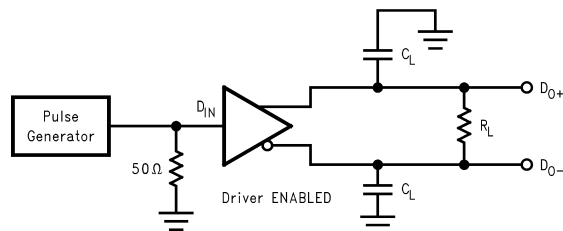
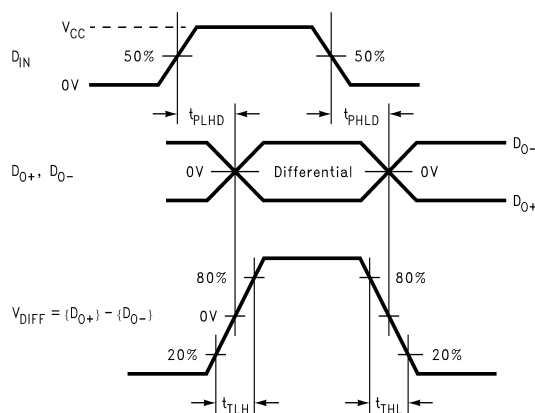

Figure 2. Differential Driver Propagation Delay and Transition Time Test Circuit
Figure 3. Differential Driver Propagation Delay and Transition Time Waveforms
| $t_{PHLD}$                                       | Differential Prop. Delay High to Low (3)   | $R_L = 27\Omega$ ,Figure 2, Figure 3,$C_L = 10\text{ pF}$ | 1  | 1.5  | 2.3 | ns   |    |